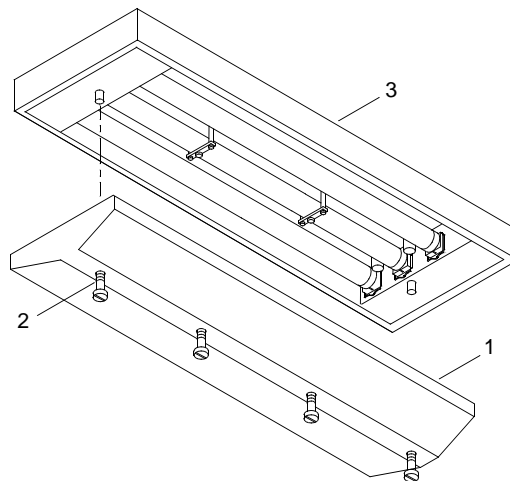

Figure 2. Light Cover Removal/Installation
2. Remove light cover (figure 2, item 1).
- a. Loosen four captive screws (figure 2, item 2) holding light cover (figure 2, item 1) on light fixture (figure 2, item 3).
- b. Remove light cover (figure 2, item 1).
4. Position light cover (figure 2, item 1) over light fixture (figure 2, item 3).
5. Tighten four captive screws (figure 2, item 2) hand tight.